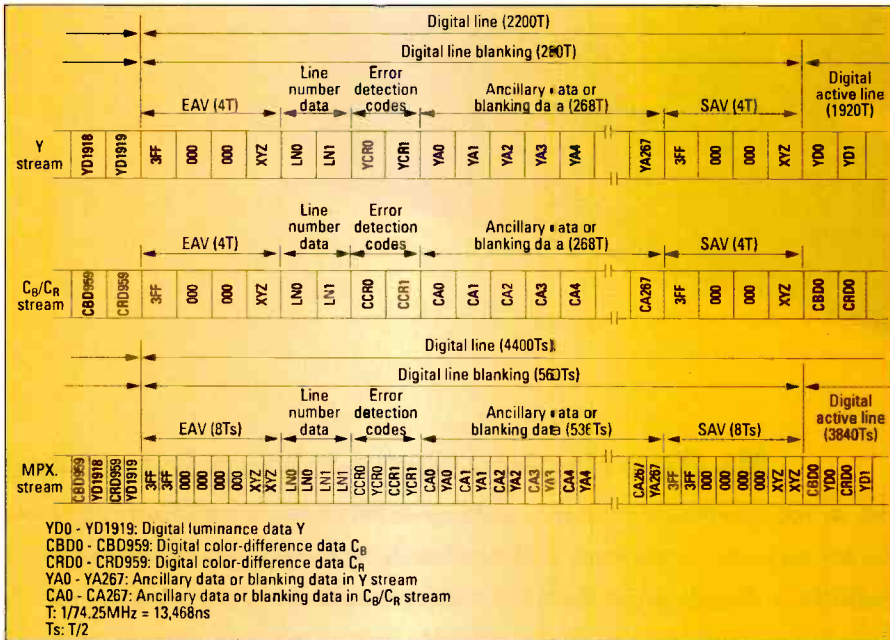

Figure 2. Formation of Y, C_B, C_R multiplexed data stream from separate Y and C_B/C_R data streams
- *Data multiplexing:* The formatted bit-parallel data streams feed a multiplexer. The two 74.25Mwords/sec bit-parallel data streams Y and C_B/C_R are multiplexed word-by-word into a single 148.5Mwords/sec 10-bit parallel data stream in the order $C_B, Y, C_R, Y, C_B, Y, C_R, Y$ and so on as shown in Figure 2. In this drawing, the first row shows details of the horizontal blanking interval of the Y data stream. The second row shows details of the multiplexed C_B/C_R data stream. The structure of the multiplexed Y, C_B, C_R data stream is shown in the bottom row.